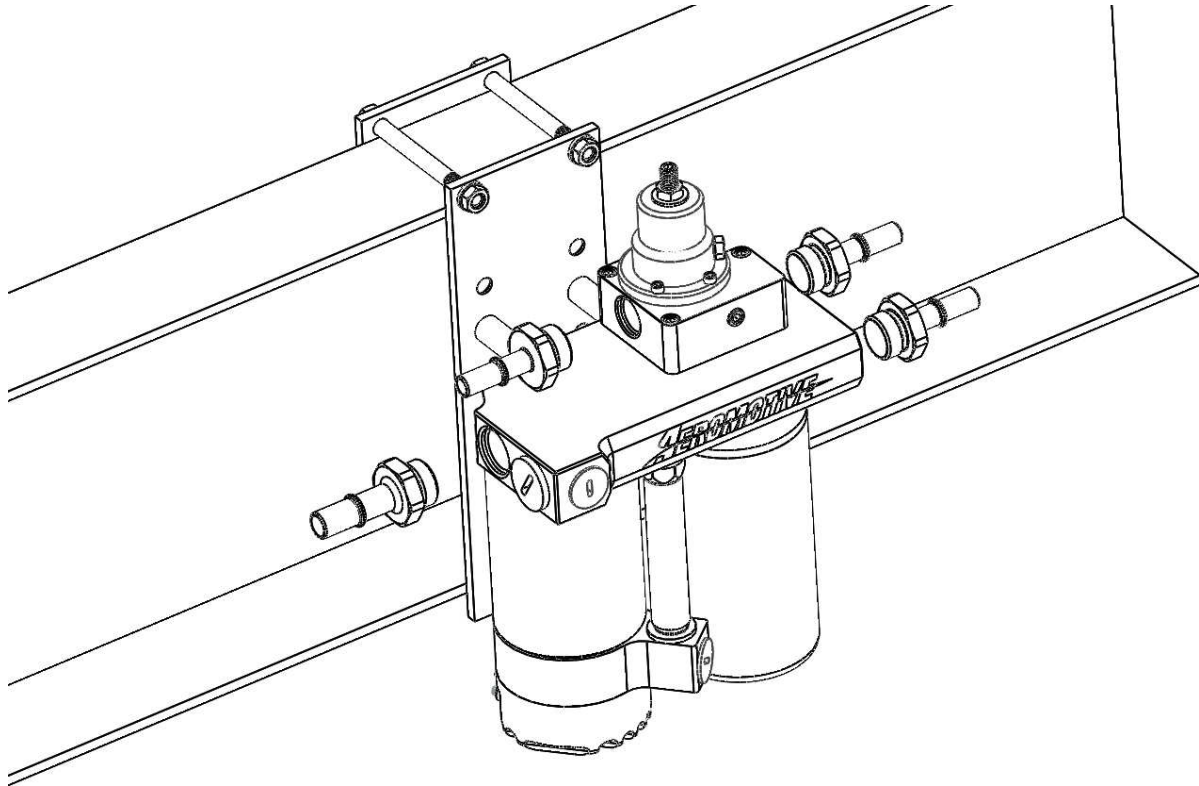

FIGURE 1-4
5. Screw the FOUR port fittings into the pump. Ensure that the fitting have the o-rings installed on them. If not, do that at this time. **FIGURE 1-4**